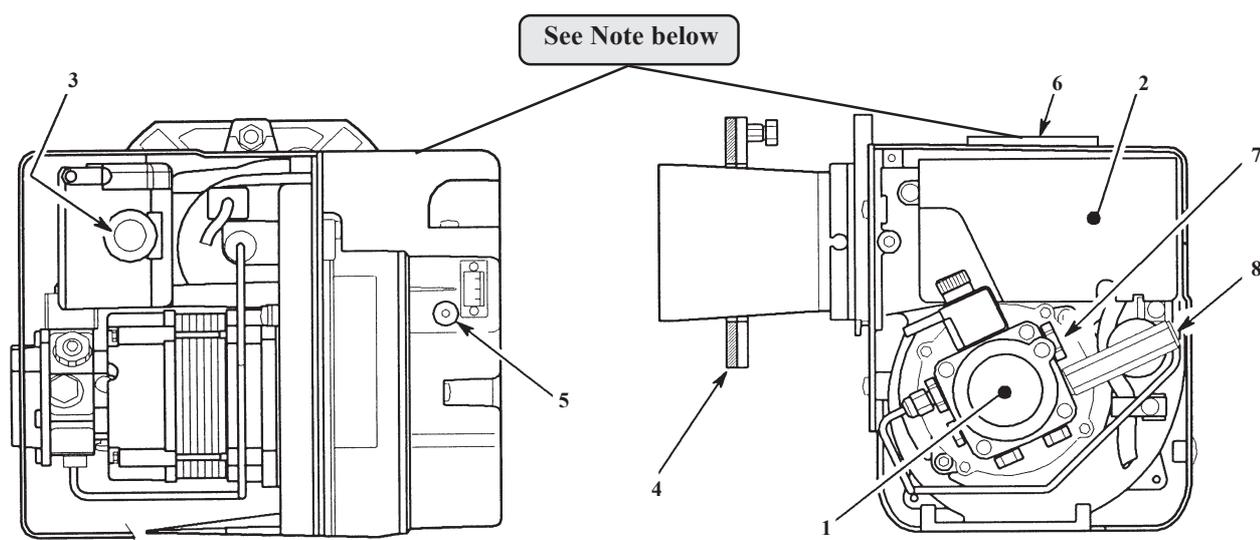

Fig. 20 - RDB burner components
- 4 Connect a combined vent manifold and pressure gauge to the pressure gauge connection port on the oil pump. See Fig. 20. Open the vent screw on your vent manifold to vent the supply while the pump is running.
- 7 With the burner alight, check the fuel pressure. Refer to the Technical Information, Section 4.3, 4.4 or 4.6. Adjust the pressure if necessary - see Fig. 20.